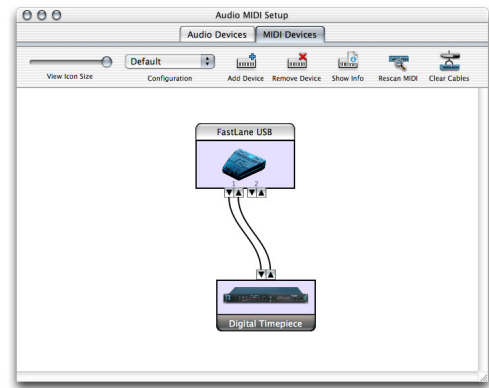

Figure 1: The Digital Timepiece in Audio MIDI Setup. In this example, a MOTU FastLane-USB is being used as the MIDI interface.
Confirm that the Digital Timepiece is present in the Mac OS X Audio MIDI Setup utility. Also confirm that Audio MIDI Setup accurately reflects the Digital Timepiece’s hardware connection to the computer via a USB MIDI interface, as demonstrated below in Figure 1:
The Digital Timepiece has two sets of MIDI IN/OUT ports. Make sure that one set or the other (it doesn’t matter which one) is connected bidirectionally to the MIDI interface. Make sure that the virtual connections in Audio MIDI Setup (Figure 1) accurately reflect the MIDI ports being used for the MIDI cable connections between the interface and the Digital Timepiece.
- The Digital Timepiece is not connected to the MIDI interface, or it is connected improperly. Make sure your cable connection(s) to the Digital Timepiece match Figure 1. Then choose *Refresh Device* from the File menu.